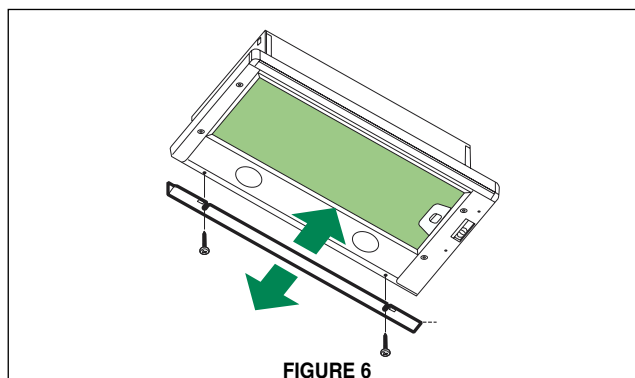

FIGURE 6
6. A metal trim strip (**FIGURE 6**) is included to cover the underside of any remaining exposed cabinet. Attach the strip to the bottom of the back of the rangehood with the three screws provided.